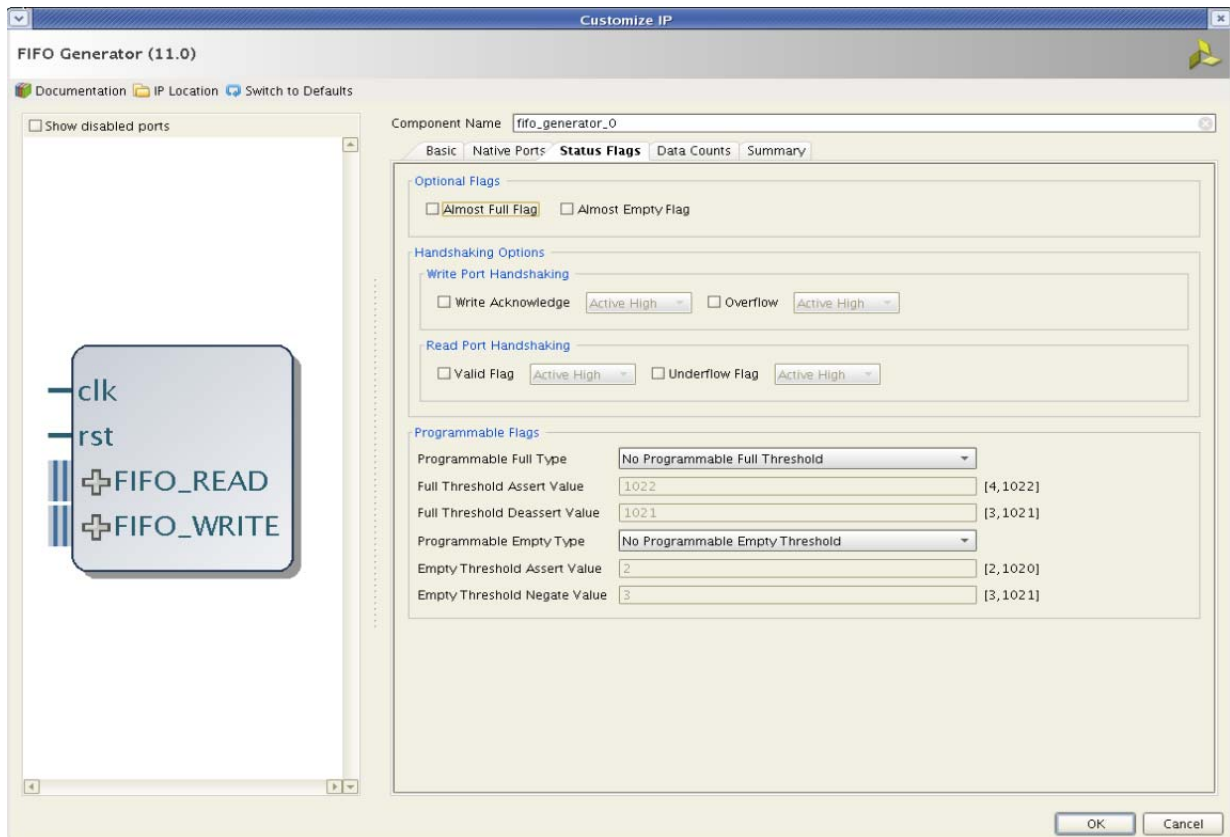

Figure 5-3: Status Flags Screen
- **Common Clock (clk), Block RAM:** See Common Clock FIFO: Block RAM and Distributed RAM in Chapter 3 for details. This implementation optionally supports first-word-fall-through (selectable in the second IDE screen, Figure 5-3).
- **Common Clock (clk), Distributed RAM:** For details, see Common Clock FIFO: Block RAM and Distributed RAM in Chapter 3. This implementation optionally supports first-word-fall-through (selectable in the second IDE screen, Figure 5-3).
- **Common Clock (clk), Built-in FIFO:** For details, see Common Clock: Built-in FIFO in Chapter 3. This implementation optionally supports first-word fall-through (selectable in the second IDE screen, Figure 5-3).
- **Independent Clocks (rd_clk, wr_clk), Block RAM:** For details, see Independent Clocks: Block RAM and Distributed RAM in Chapter 3. This implementation optionally supports asymmetric read/write ports and first-word fall-through (selectable in the second IDE screen, Figure 5-3).
- **Independent Clocks (rd_clk, wr_clk), Distributed RAM:** For more information, see Independent Clocks: Block RAM and Distributed RAM in Chapter 3. This implementation optionally supports first-word fall-through (selectable in the second IDE screen, Figure 5-3).
- **Independent Clocks (rd_clk, wr_clk), Built-in FIFO:** For more information, see Independent Clocks: Built-in FIFO in Chapter 3. This implementation optionally supports first-word fall-through (selectable in the second IDE screen, Figure 5-3).